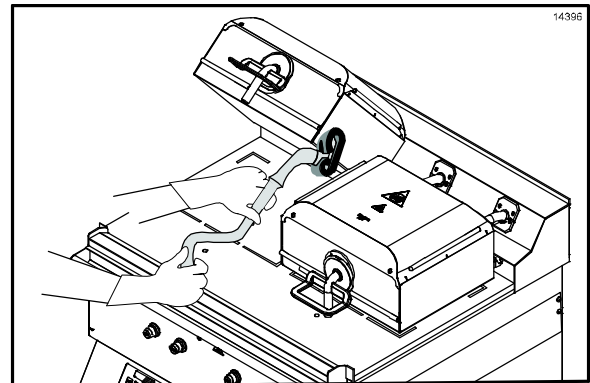

Figure 51
21. Apply grill cleaner to the inner edges of the right and left platens. (See Figure 51.)